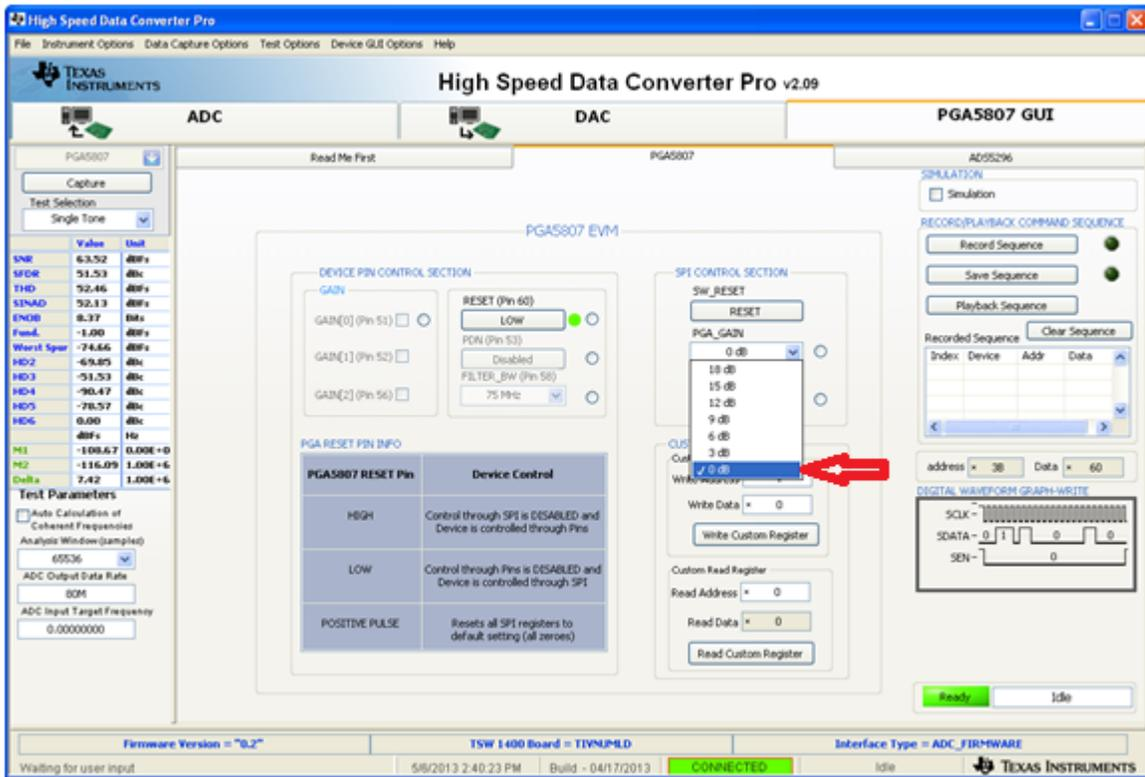

Figure 46. PGA5807 GUI Setup for PGA5807+ADS5296 SNR, THD, Gain Test 2
- Return to the *PGA5807* tab and change the *PGA_GAIN* in the *SPI CONTROL SECTION* to 0 dB as shown in Figure 46.